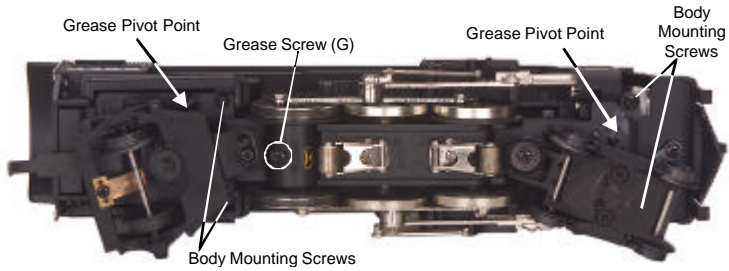
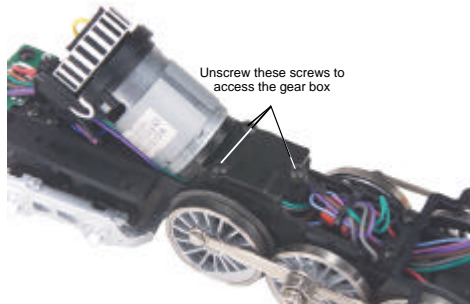
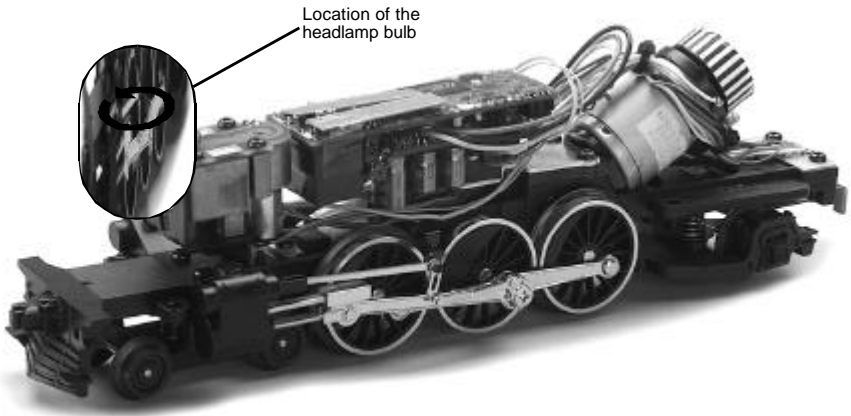

Figure 6: Removing The Body And Lubricating The Grease Points
Figure 7: Motor Gearing Grease Plate Screws
Figure 8
2. Remove the boiler by removing the body mounting screws shown in Fig. 6
3. Remove the Phillips screw (marked “GREASE”) located at each set of wheels (Fig. 6) and the gearbox cover screws (Fig. 7).
You should also grease the leading and trailing locomotive truck tongues to enhance their ability to slide on the chassis. Follow the grease points shown on Fig. 6.
1. To replace the headlight in this model you will need to follow the disassembly instructions for greasing the engine in figure 6 on pg. 13. Once the boiler has been removed you can access the headlight(see figure 8).
heating element. To remove the smoke unit you will first have to remove the boiler shell (by removing the body mounting screws shown in Fig. 6 on pg. 13). To do this, follow these instructions: